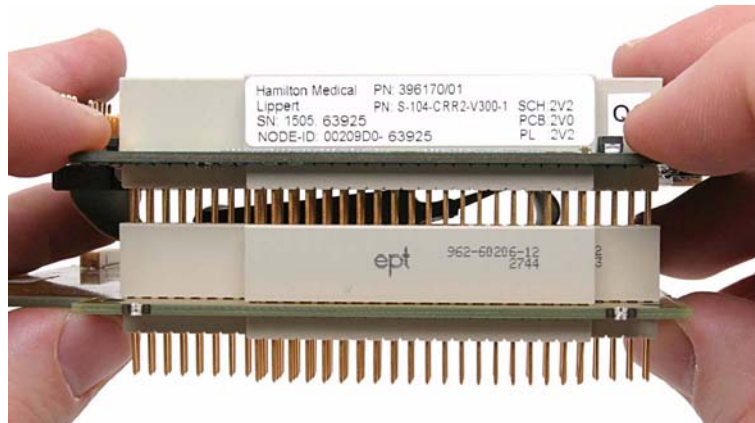

Figure 11-61. Fitting the CPU module and LCD adaptor together
2. Push the pins on the CPU module into the LCD adaptor. (Figure 11-61.)
3. Apply the four grey plastic screws, PN 420573, and the two hexagonal spacers, PN 257057, to secure the pin connection. (Figure 11-61.)